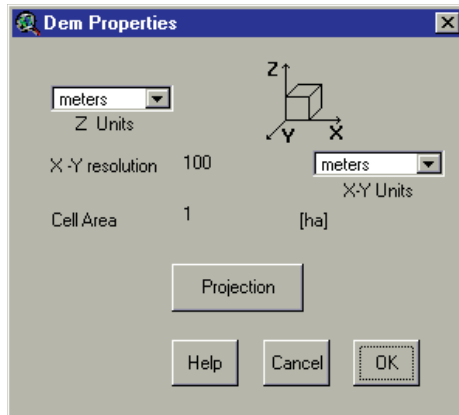

Figure 15.13
7. Click the properties button  next to the DEM grid text box. The interface will activate the map Properties prompt box (Figure 15.13).